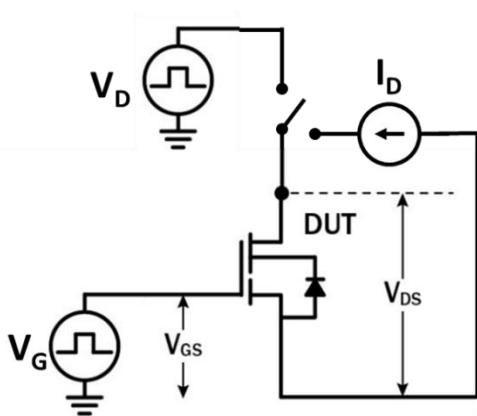

Figure 18. Dynamic $R_{DS(on)eff}$ Test Circuit
- g. Dynamic $R_{DS(on)}$, 100% tested; see Figures 18 and 19 for conditions